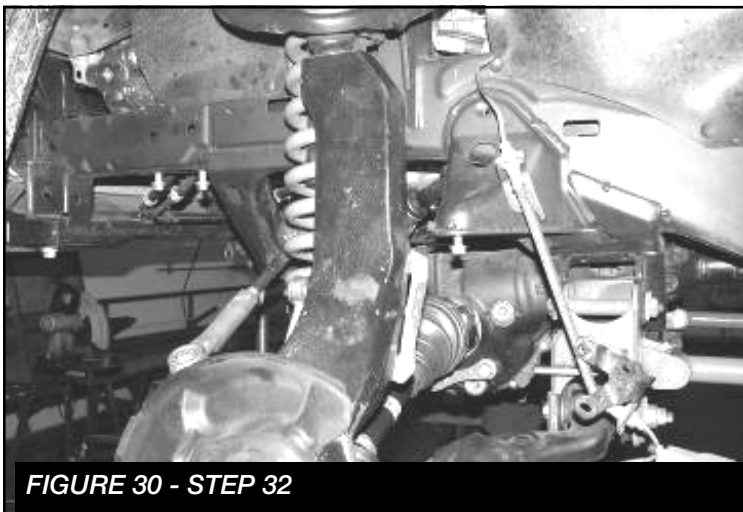

FIGURE 30 - STEP 32
32. Support the lower arm with a floor jack and install the new assembled steering knuckle to the lower ball joint with the factory castle nut and supplied cotter pin. Raise the jack enough to install the knuckle up into the upper ball joint and attach with the factory castle nut and supplied new cotter pin. Torque to 35 ft.lbs. **SEE FIGURE 30**